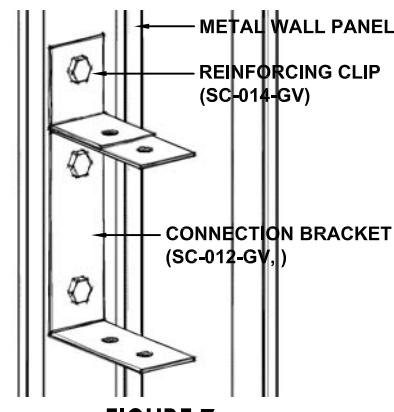

FIGURE 7
3. **Figure 7 - If your bracket location falls in the flat of the wall panel you may surface mount the Reinforcing Clip (SC-014-GV) and Connection Bracket (SC-012-GV) as shown. You may want to remove some of the batt insulation to allow a tight connection. ALWAYS INSTALL THE TOP REINFORCING CLIP (SC-014-GV).**